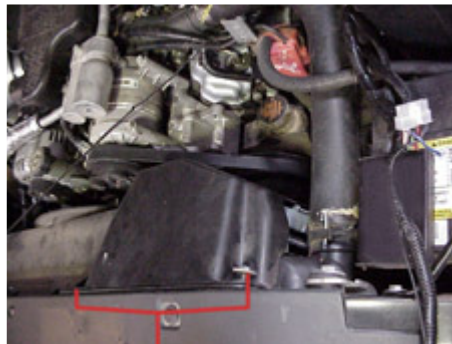

Figure 15: 10mm bolts for removal
- 2) Remove the transmission control module (TCM) from the radiator support shroud by removing the two 10mm bolts from the cover indicated in Fig. 15.